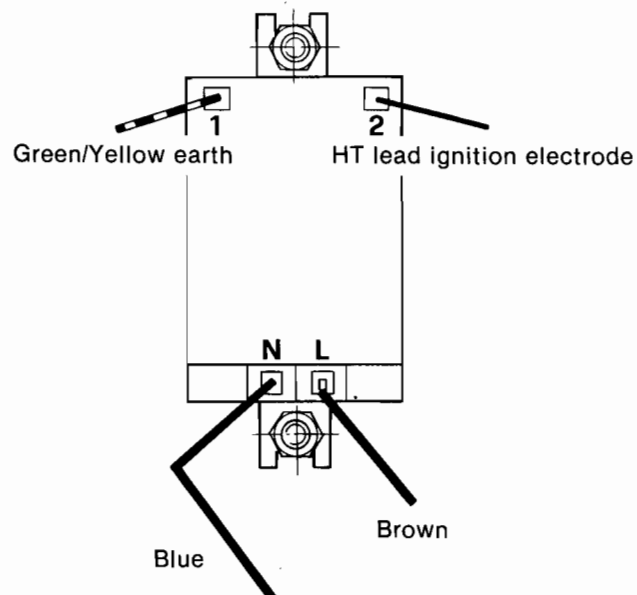

Fig. 44
- d) Re-assemble in reverse order (refer to fig. 43 for replacement of the time clock, and fig. 44 for wiring).
- c) Release the two ignition generator fixing screws, situated at the base. (Refer to fig. 44 for wiring).
- d) Re-assemble in reverse order. (Refer to fig. 44 for wiring). Check the ignition of the pilot.